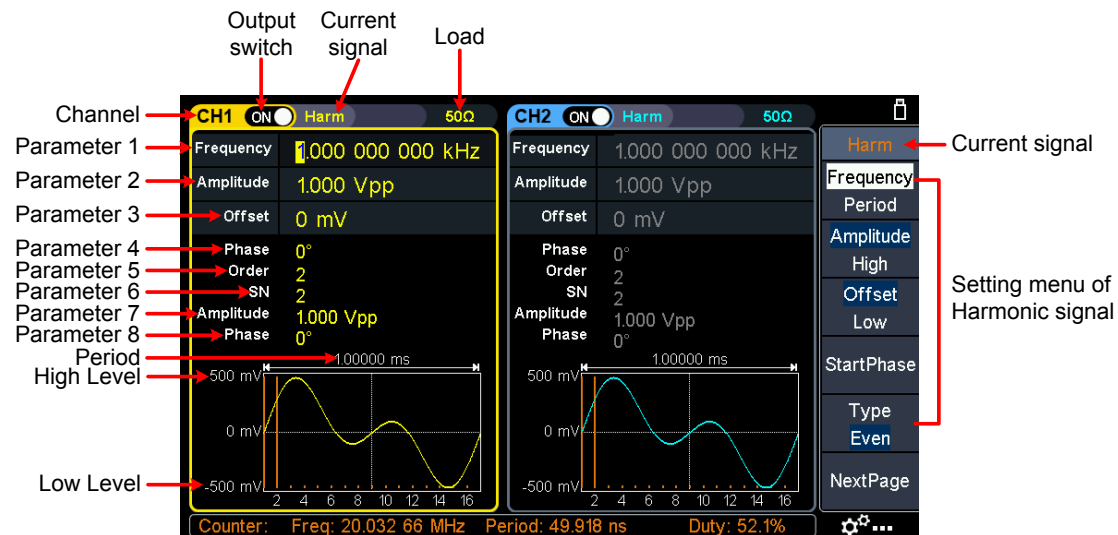

Figure 5-10: Harmonic wave user interface
next page, and press the **Order** softkey, the **Order** menu item is highlit. In **Parameter 5** of Figure 5-10, a blinking cursor appears in the parameter value of order. Turn the **rotary control** to change the value directly, or use the **numeric keypad** to input the desired value, which can be set from 2 to 16.
- (1) **Select the sequence number of the harmonic:** Press the **SN** softkey, the **SN** menu item is highlit. In **Parameter 6** of Figure 5-10, a blinking cursor appears in the parameter value of SN. Turn the **rotary control** to change the value directly, or use the **numeric keypad** to input the desired value.
- (2) **Set the amplitude of the selected SN:** Press the **Amplitude** softkey, the **Amplitude** menu item is highlit. In **Parameter 7** of Figure 5-10, a blinking cursor appears in the parameter value of Amplitude. Turn the **rotary control** to change the value directly, or use the **numeric keypad** to input the desired value and choose the unit.
- (2) **Set the phase for the selected SN:** Press the **Phase** softkey, the **Phase** menu item is highlit. In **Parameter 8** of Figure 5-10, a blinking cursor appears in the parameter value of Phase. Turn the **rotary control** to change the value directly, or use the **numeric keypad** to input the desired value and choose the unit.